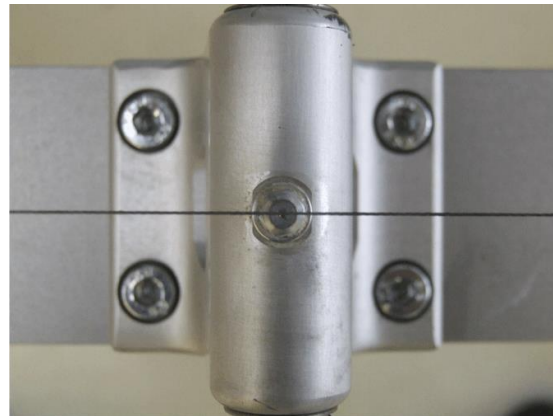

Fig. 3 - Reference point at grease nipple
- 3 Adjust distance of stand carefully so that measuring cord is strung slightly above the central grease nipple. Verify centre position of grease nipple (Fig. 3).